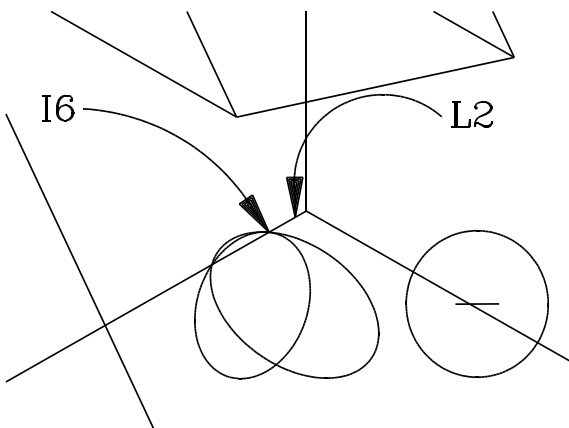

Figure 18
48. Click on L2 (the line), then click on I6 (the other intersection of the line and the ellipse). (See Figure 18.)